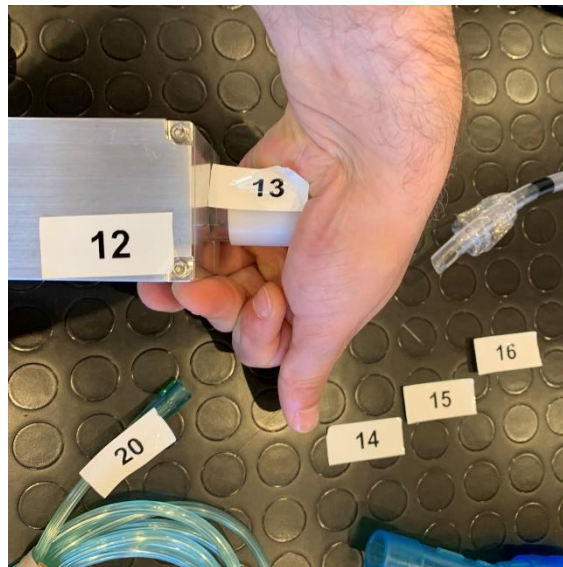

Figure C.3. Part 2 of ventilator test. Abruptly plug the free exit of the ABU sensor pack in order to suddenly increase the resistance of the breathing circuit.
- 5- Once the mechanical pinchers are in the closing phase (i.e., they are squeezing the ABU balloon), plug abruptly the free exit of ABU sensor pack as shown in Figure C.3, in order to increase suddenly the resistance of the breathing circuit.